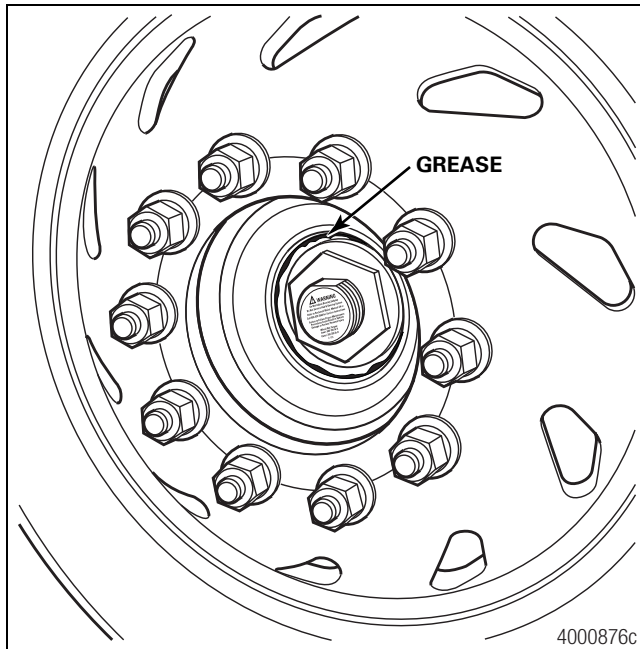

Figure 13.11
- NOTE:** The outboard and inboard seals may purge small amounts of grease that are visible during inspection. Figure 13.11. This is a normal occurrence.